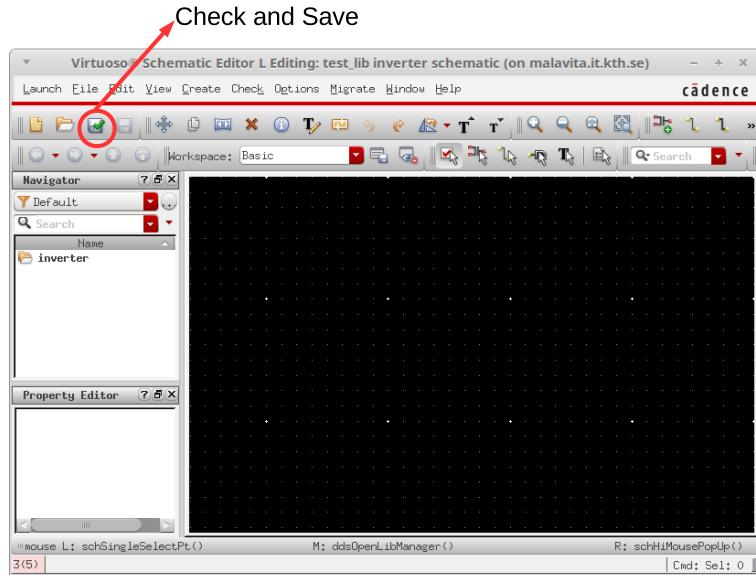

Figure 7: Check and Save
4. Once you have created the inverter cell in the Library Manager, an empty schematic is created (Fig. 7).